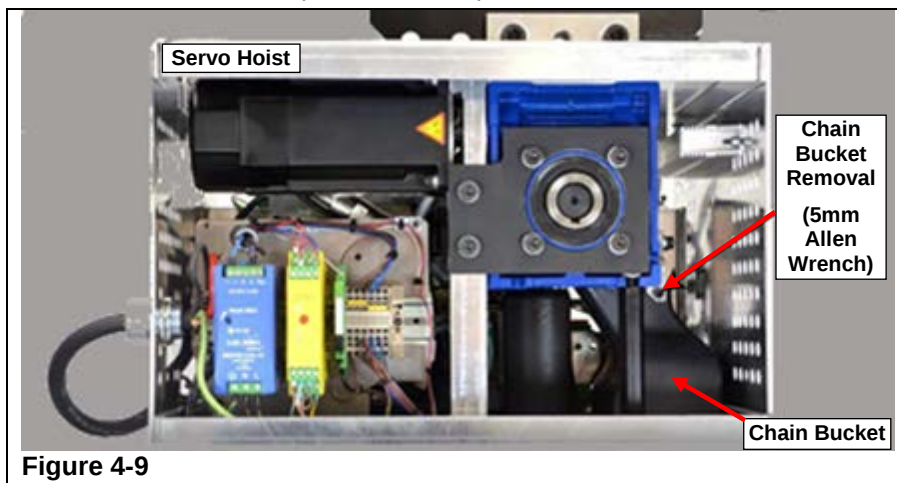

Figure 4-9
Step 9. Remove the side covers from Servo Hoist. (Refer to Figure 4-9)
- a. Remove the (2) two M6 screws on the bottom of each of the covers.